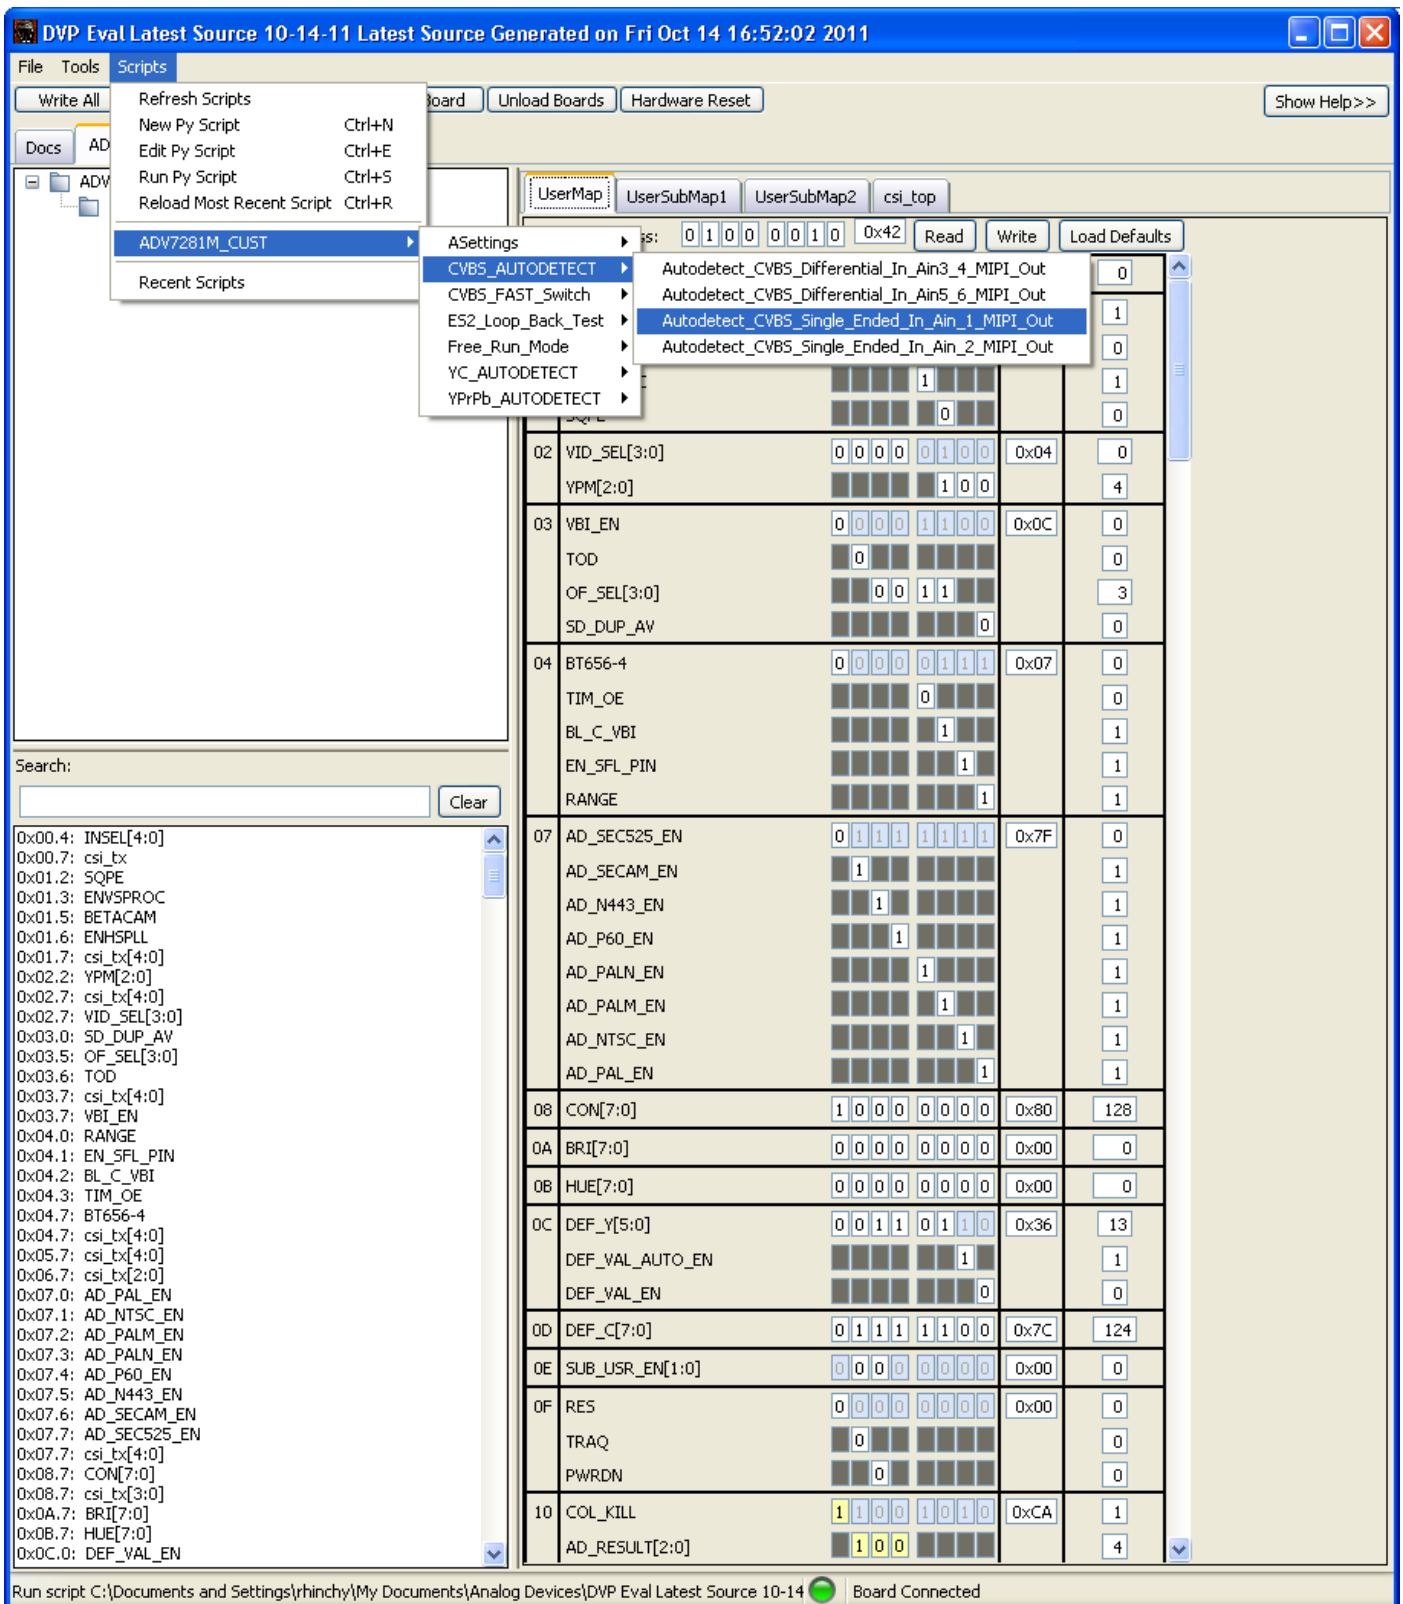

Figure 8. Running ADV7281-M Script on DVP Eval Program
7. Select Scripts-> ADV7281-MCUST to select the script you wish to run (refer to Figure 8).